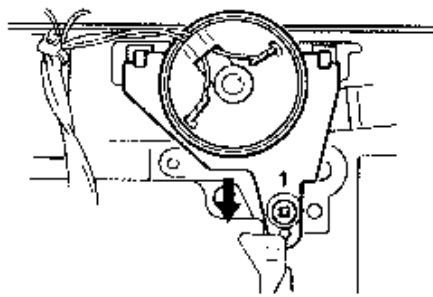

Fig. 12
- c. Remove screw ① in fig. 12 and then remove the reel motor unit.